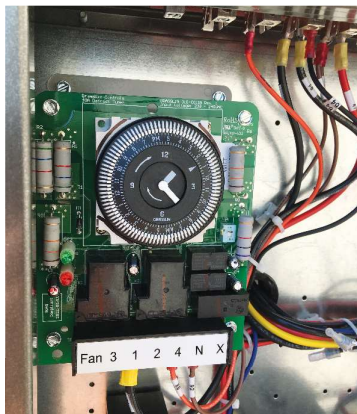

Figure 6
1. If a defrost timer is installed on the condensing unit, make sure it is disconnected/disabled (all switches on time clock should be in the OFF position) (Figure 6). All defrost functions are performed by the controller board.